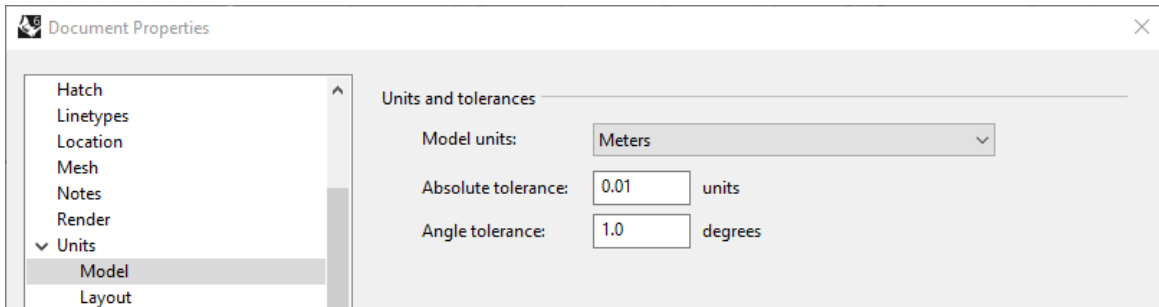

Figure 5: The *Rhino* window to specify model units and tolerances.
*Rhino* allows users to specify units when creating a new project. Units determine what is displayed when measuring distance, location, or angles. More importantly, units and object sizes are related to tolerances used by *Rhino*. By default, tolerance is determined based on model units. However, users can specify custom values (see Figure 5).